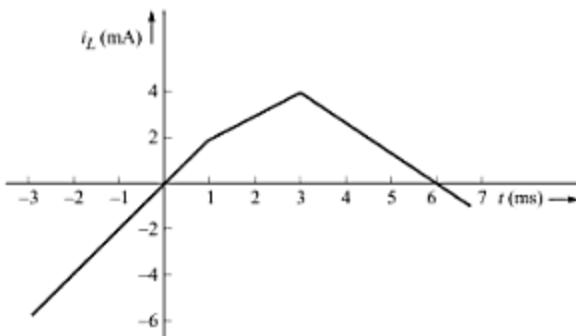

Fig. B-7
- B-34.** The current through a 0.2 H inductor is shown in Fig. B-7. Assuming the passive sign convention, find v_L at t equal to (a) 0, (b) 2 ms, and (c) 6 ms.